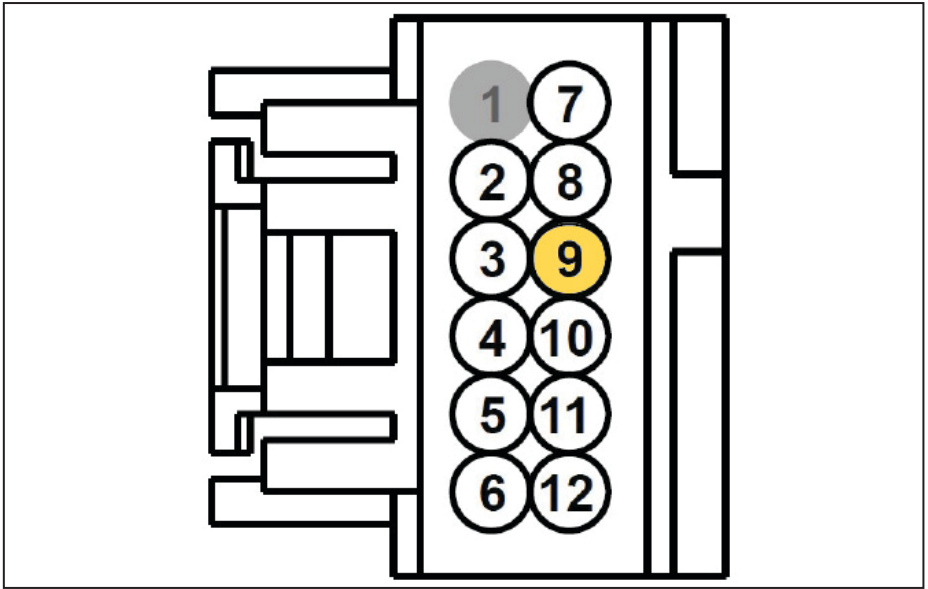

Figure 52 — Connect gear selector
- Splice the blue wire from the throttle control to the green wire at pin 9 of the gear selector connector (CET52) (Figure 52).